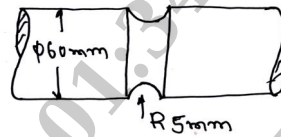

Fig.Q2(c)
- c. Determine the maximum stress induced in the semi circular grooved shaft shown in Fig.Q2(c), if it is subjected to (i) An axial load of 40 kN (ii) A bending moment of 400 N-m (iii) A Twisting moment of 500 N-m. Take the stress concentration into account.